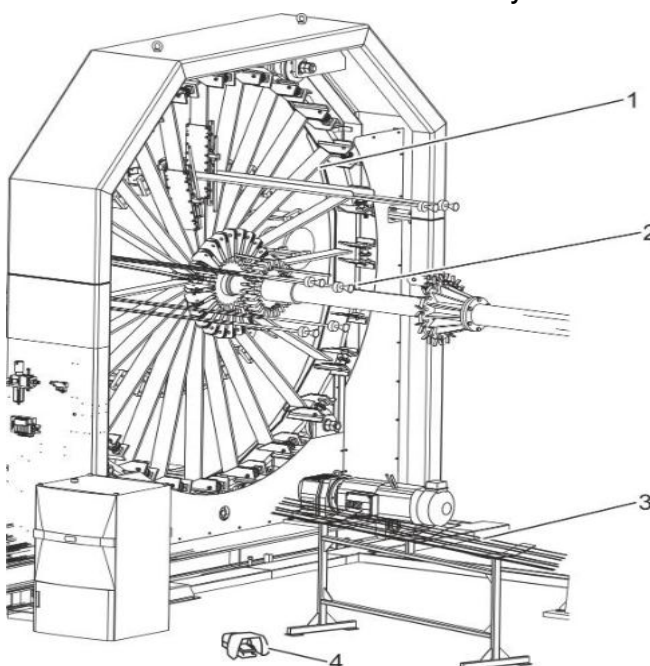

Fig. 49: Placement of longitudinal wires
17. Insert the longitudinal wires (Fig. 49/3) individually into the wire guide tubes (Fig. 49/2) until they reach the wire clamp at the cage pull-out wheel.
18. Press the *[Foot switch]* (Fig. 49/4).
19. The electrode support wheel (Fig. 49/1) rotates until the *[Foot switch]* (Fig. 49/4) is released and the next welding spot is reached.